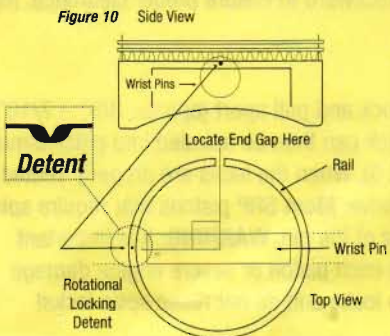

Figure 10
2. Rotate the oil ring support rail until antirotational locking detent falls between the opening at intersection of ring groove and wrist pin hole. (fig. 10)